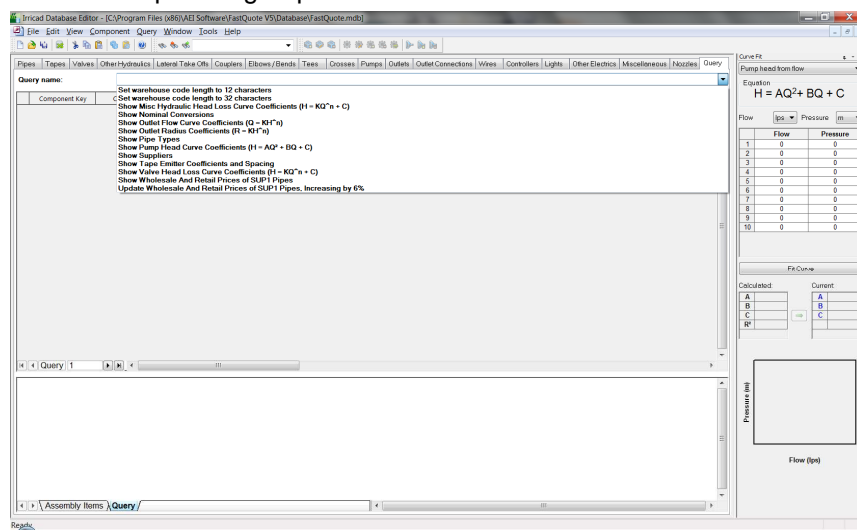

Figure 2-42
4. Once the query has been selected, the formula will be displayed in the lower field. See Figure 2-42.